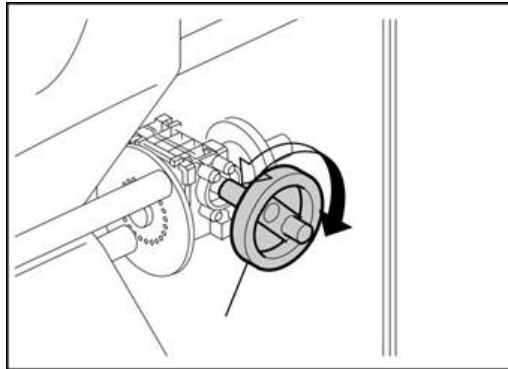

Fig 45: Adjusting the Fabric Tensioner
Step 5: Adjust the **Fabric Tensioner** (as shown in Fig 45) such that the fabric get stretched and to remove any slack. Do not over tension the fabric.